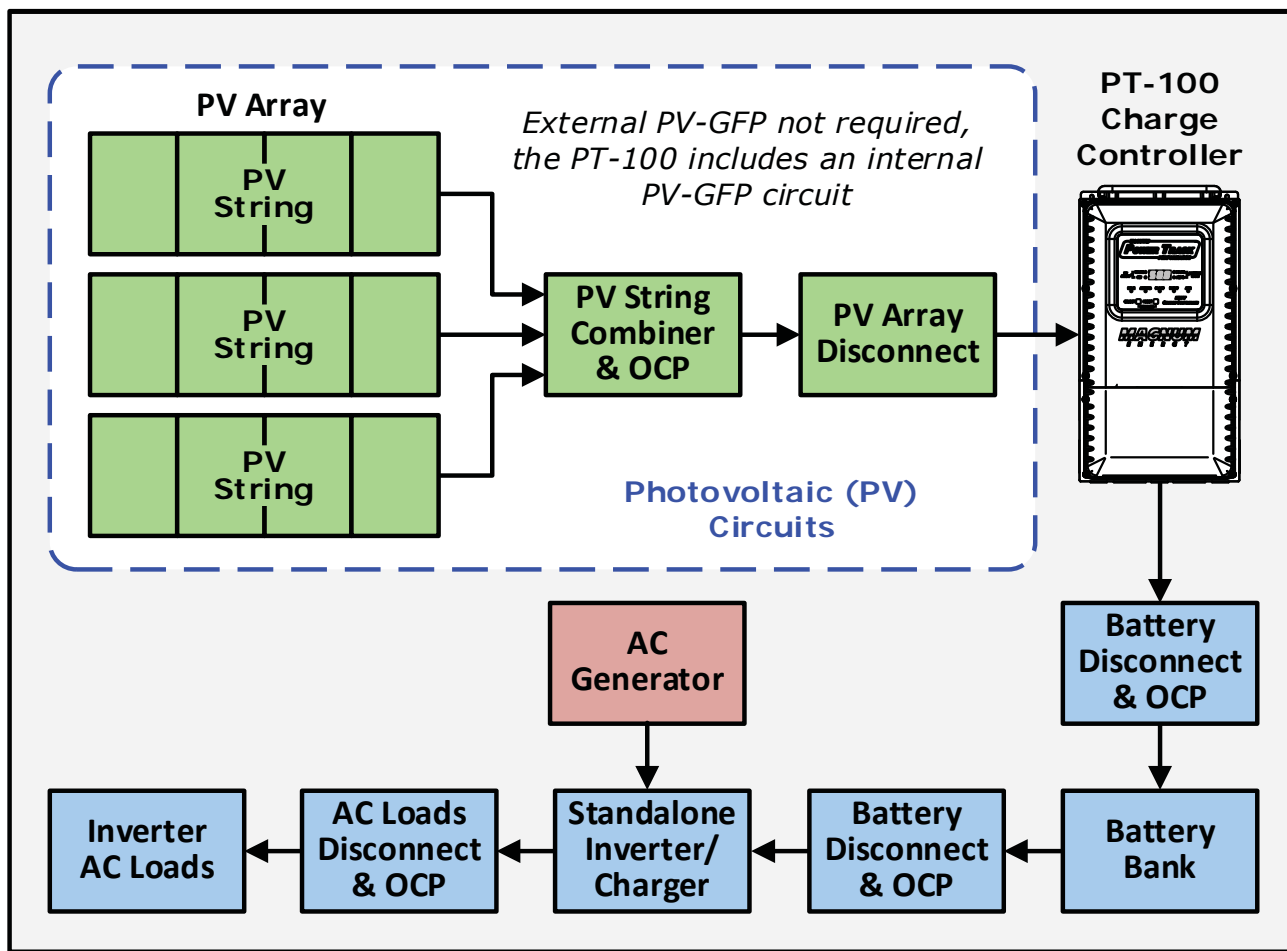

Figure 2-1, Simplified PV System
A simple diagram of a typical stand-alone Photovoltaic (PV) system is illustrated in Figure 2-1. This diagram will help identify the PV system components used with a standalone controller.